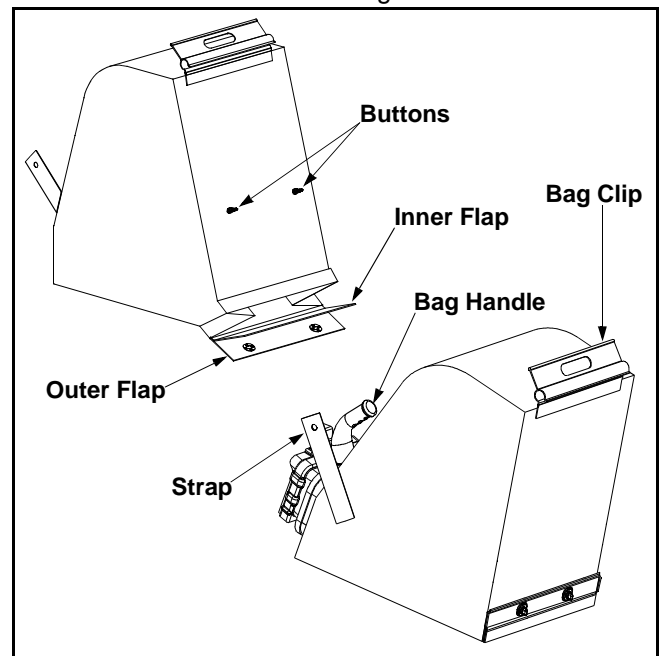

Figure 6
- Unhook bag straps from the lower handle and unsnap bag clip from the top of lower handle. See Figure 6.
- Twist the two buttons on the back of the bag to unlock and empty contents. See Figure 6.